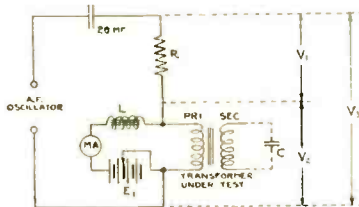

Fig. 7. Voltmeter method for determining reactance and effective resistance of transformer primary
2. It is often desired to perform this measurement with a definite value of a-c. potential applied to the primary. In this case, the well known three-voltmeter method can be used to advantage. Fig. 7 shows in outline the circuit, with means for applying a d-c. potential to the primary. The reactance of the choke L must be sufficiently high with respect to that of the transformer primary to make the effect of the shunting circuit negligible, or its inductance value must be known and its effect allowed for in the calculations.